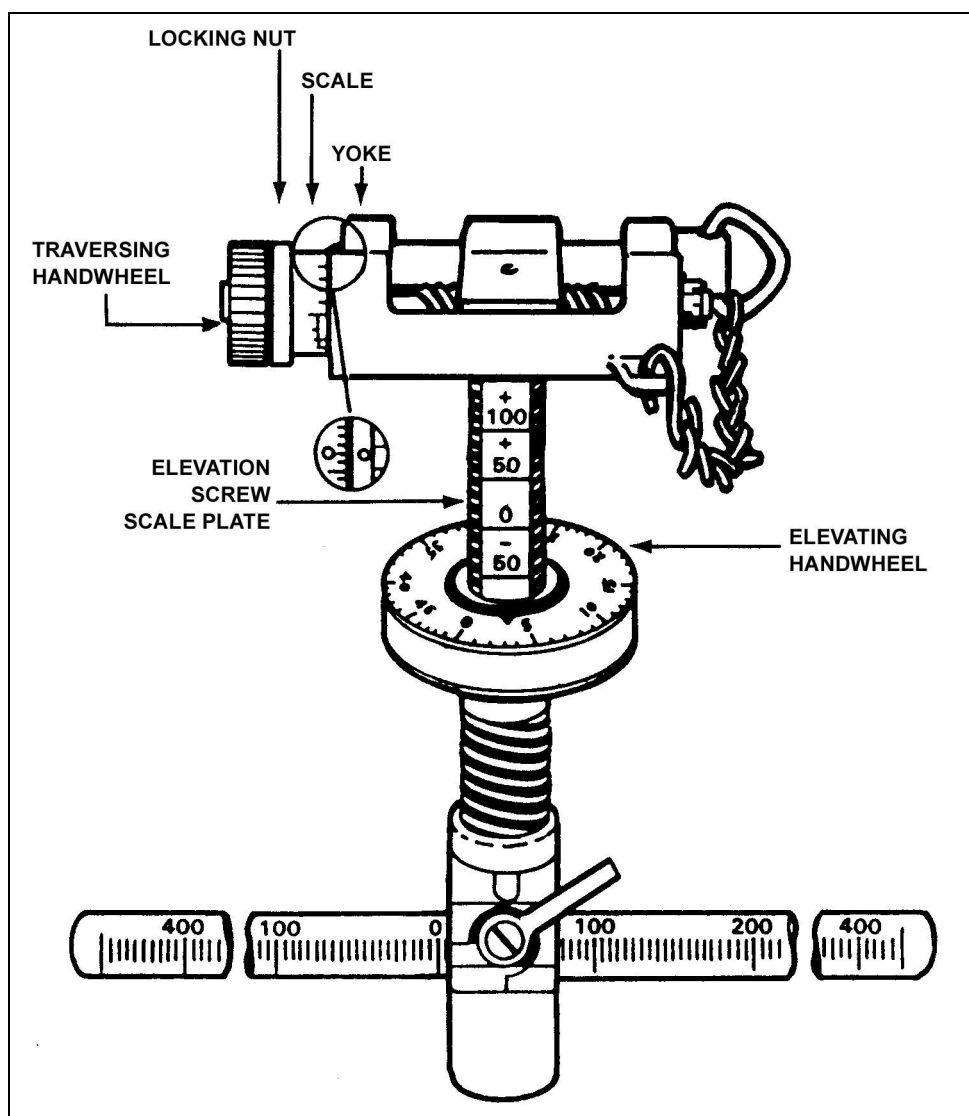

Figure 4-5. Zeroing the T&E mechanism.
a. **Zero the T&E Mechanism.** Before the gunner can use the T&E mechanism to engage targets, he must zero it (Figure 4-5). Refer to section 3-2 for more information on zeroing the T&E mechanism.